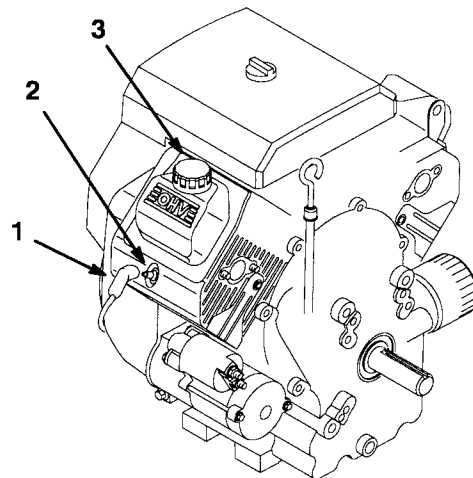

Figure 26
6. Slowly pour approximately 80% of the specified amount of oil into the oil filler tube (Fig. 26). Now check the oil level; refer to Checking the Engine Oil Level, page 11. Slowly add additional oil to bring the oil level to the FULL mark on the dipstick.
3. Pull the wire(s) off the spark plug(s) (Fig. 26). Now clean around the spark plug(s) to prevent dirt from falling into the engine and potentially causing damage.
3. Push the wires onto the spark plugs (Fig. 26).